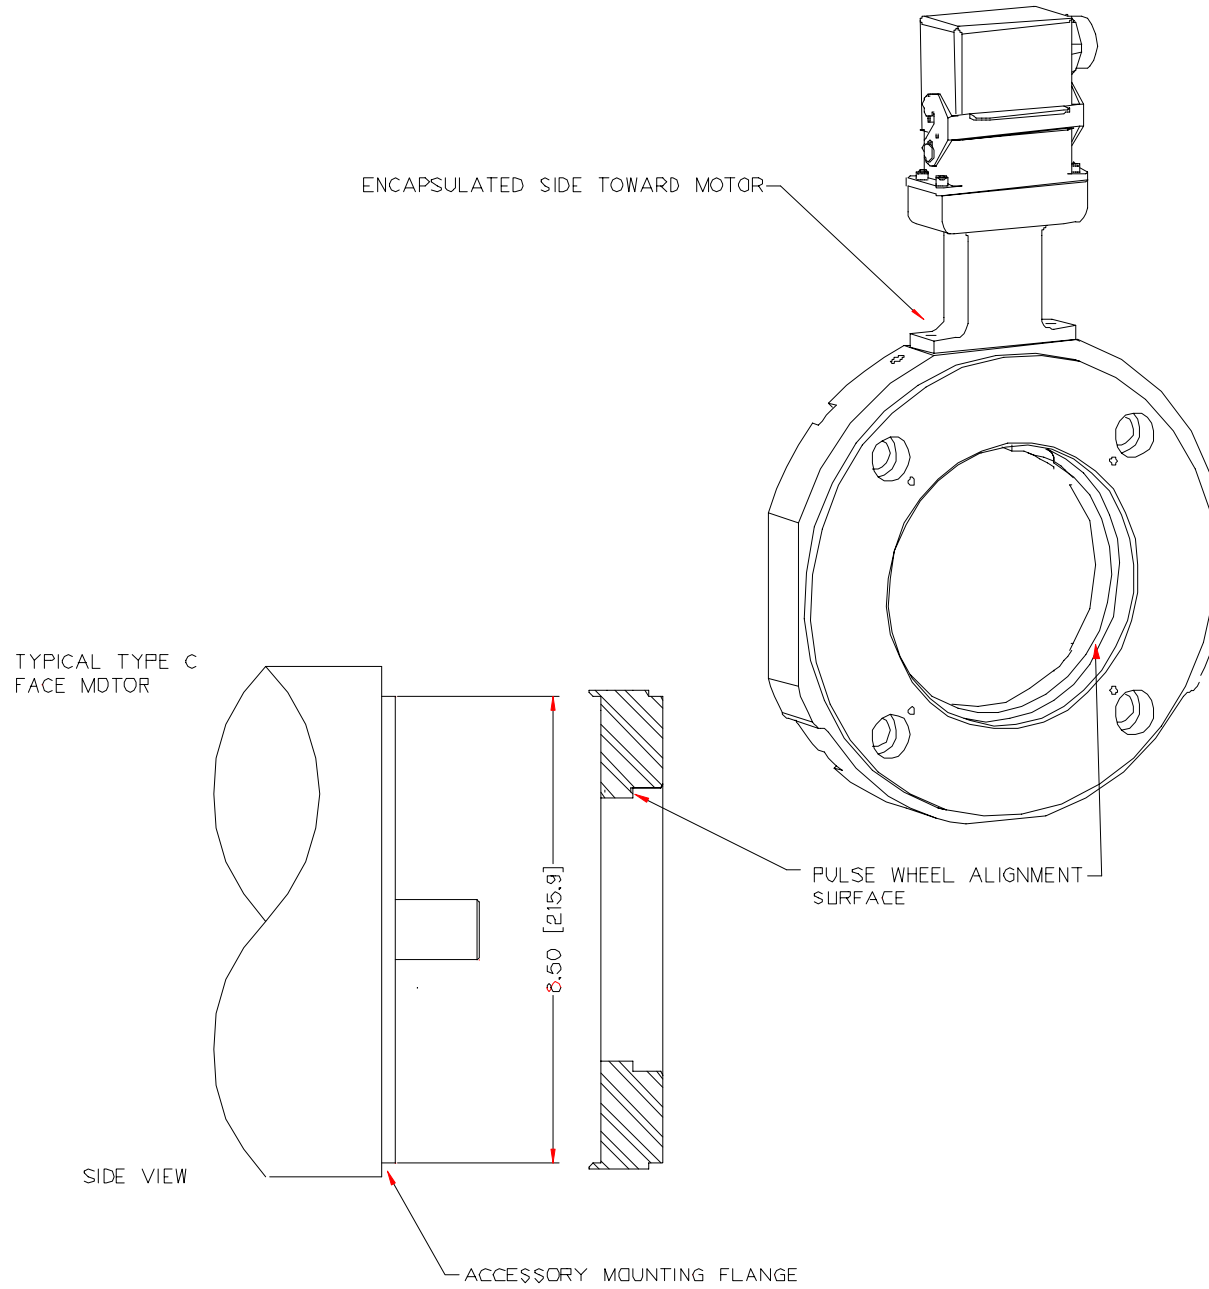

Figure 3: Typical Motor Mounting
| Figure 3: Typical Motor Mounting | 8 |
1. Orient the encoder frame so the 8.5 inch I.D. surface will fit over the 8.5 inch C flange (encapsulated side toward the motor). Mount frame onto the motor flange. Insert the four 1/2 inch x 13 UNC socket head cap screws through the frame and into the motor frame. Use a 3/8 inch hex wrench to tighten a nominal 25 foot pounds. See Figure 3.